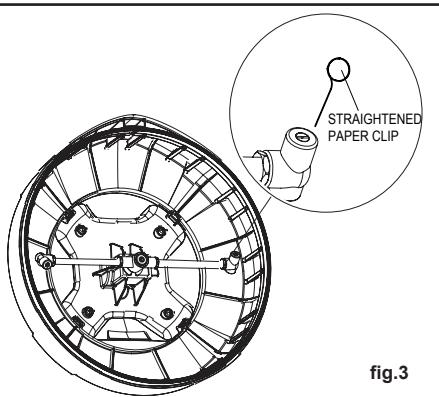

fig.3
- If striping or swirling continues, the surface cleaner nozzle(s) may be clogged. Disconnect surface cleaner from pressure washer spray wand before servicing. Using a straightened paper clip or nozzle cleaning tool (not provided), free any foreign materials clogging or restricting the nozzle.(See Fig.3)